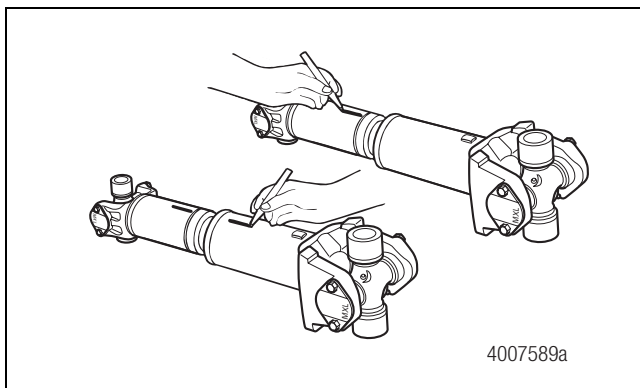

Figure 3.5
3. Mark the slip yoke and slip shaft sections to ensure that you reassemble them into their original positions. Figure 3.5.